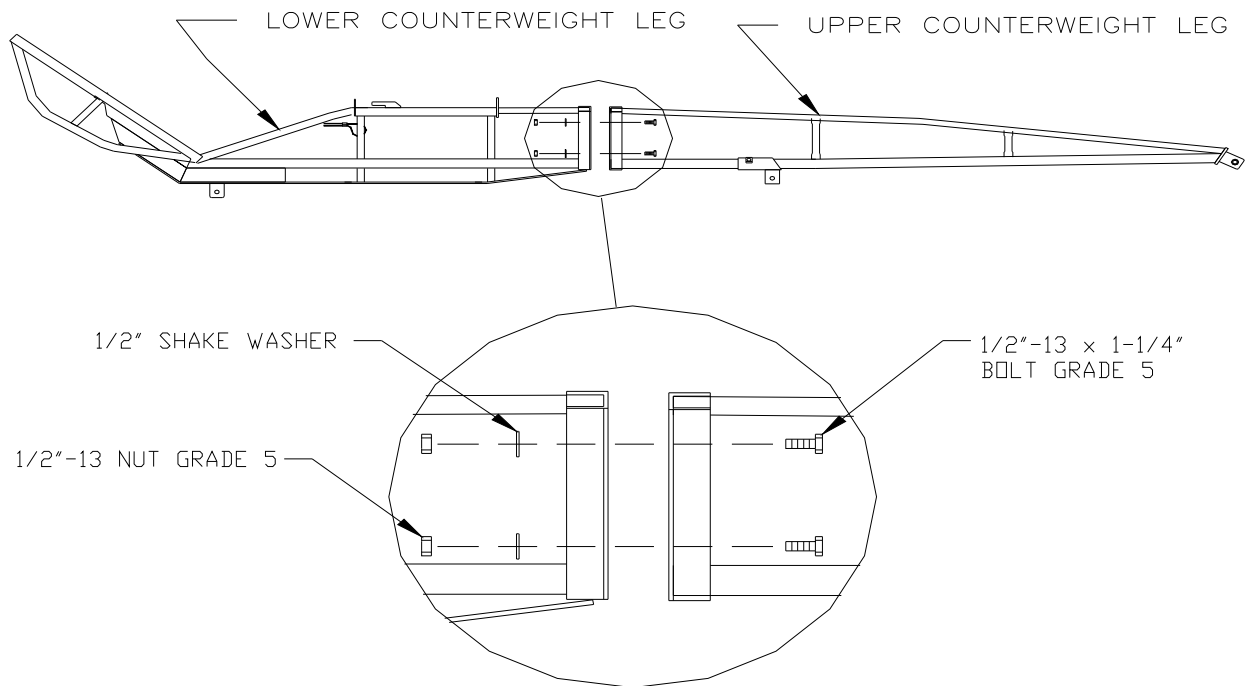

Figure 3-5.
1. Align the upper and lower sections of the Counterweight Leg as shown in Figure 3-5.
2. Fasten upper and lower counterweight sections together with 1/2" x 1-1/4" Grade 5 bolts and nuts with shake washers as shown in Figure 3-5.